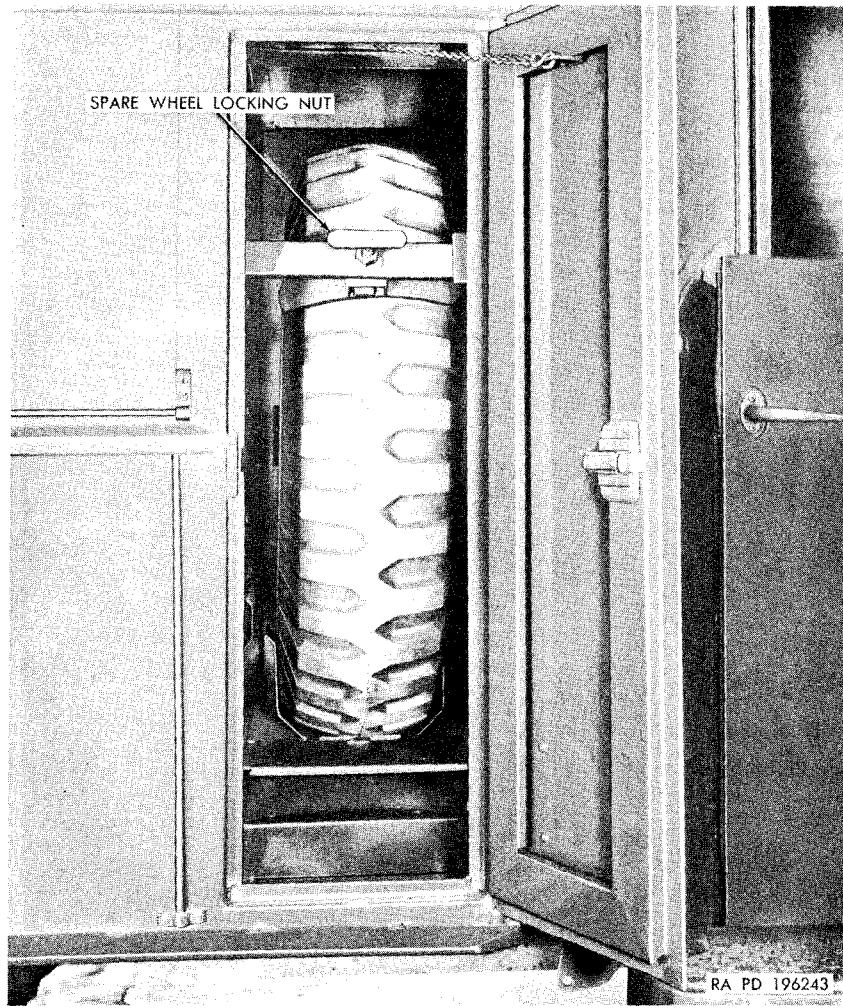

Figure 7. Spare wheel stowage compartment (telephone maintenance truck V-41).
- (d) *Telephone maintenance truck V-41*. The telephone maintenance truck V-41 (fig. 4) has an all steel body which incorporates compartments for stowage of tools and supplies. The spare wheel is located in the right side front compartment of the body (fig. 7). A spotlight is mounted on a support at the left front fender.